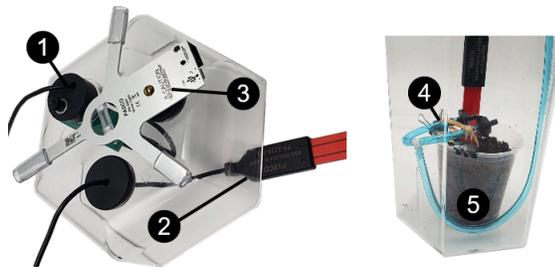

Figure 1. Greenhouse setup
3. Set the Greenhouse Sensor Module **1**, moisture probe **2**, and Grow Light **3** in the Greenhouse lid as shown in Figure 1.
5. Use binder clips and rubber bands **4** to secure tubing and drip heads to the plant pot as shown in Figure 1 (your pot should include a plant).